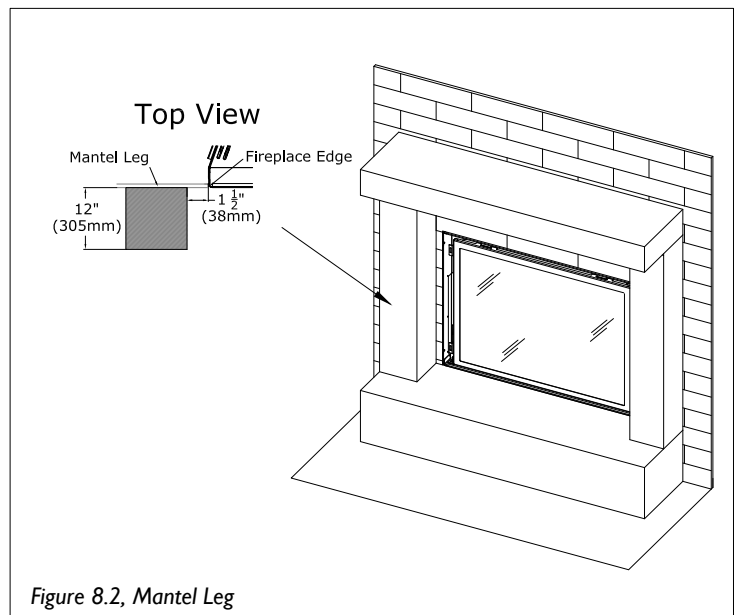

Figure 8.2, Mantel Leg
- Minimum clearances to a combustible mantel leg is 1-1/2" (38mm) (Fig. 8.2).